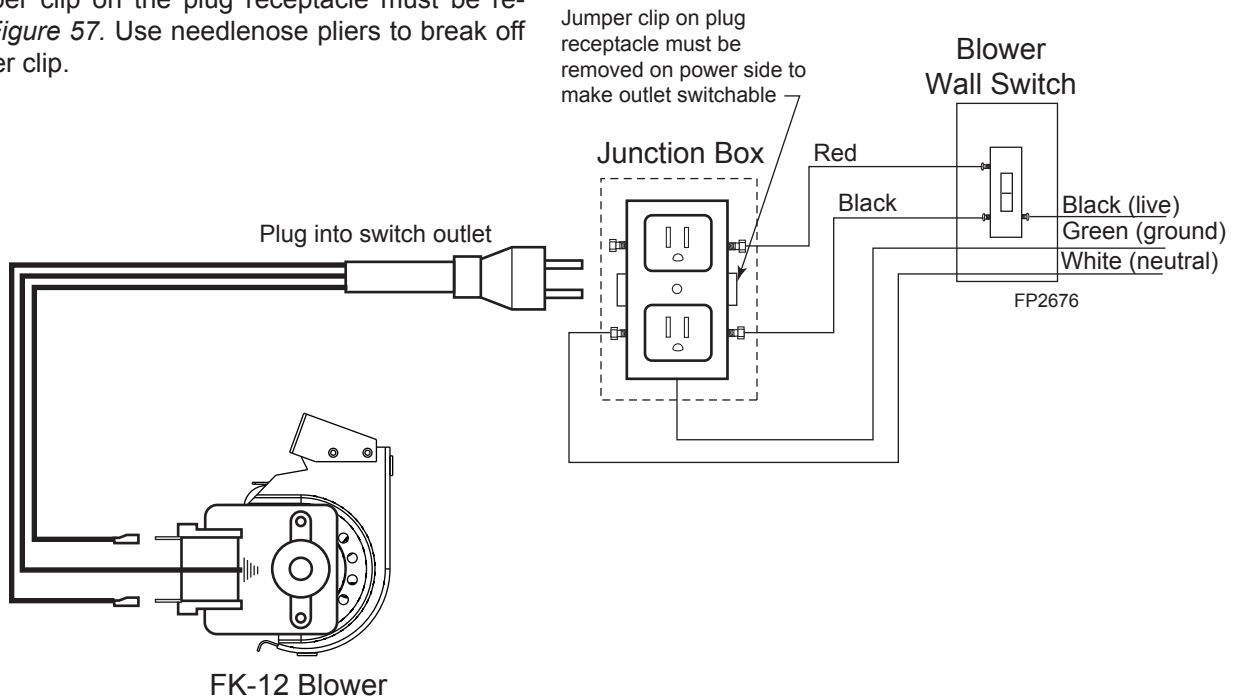

Figure 57 - FK-12 Blower wiring Diagram
3. The jumper clip on the plug receptacle must be removed. *Figure 57.* Use needlenose pliers to break off the jumper clip.